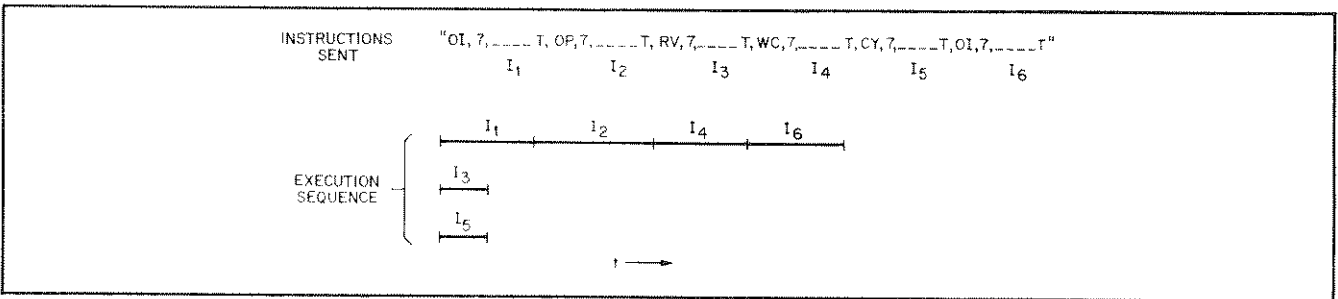

Figure 5-8. Same Card Restrictions in Parallel Mode
2. Only one instruction can be active for any one card at the same time. Multiple instructions (like or unlike) that address the same card will run in sequence. The following instructions are affected by this restriction; IE, II, IP, OB, OI, OP, OS, and WC. Note that, even though two or more OI (or II) instructions can be executed in parallel, the same card restriction applies since one card cannot be busy in two or more OI (or II) instructions at the same time. Figure 5-8 illustrates how four instructions affected by this restriction (I1, I2, I4, and I6) and two that are not (I3 and I5) are executed in the parallel mode. In the example six instructions are addressing card 7.